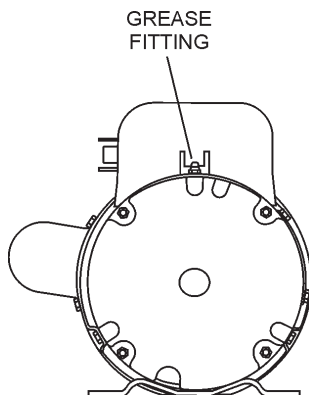

Figure 34. Grease Fittings (Electric Motor)
1. There are two grease (Figure 34) fittings at each end of the electric motor that will require lubrication. Lubricate these fittings about **every 16 months**.